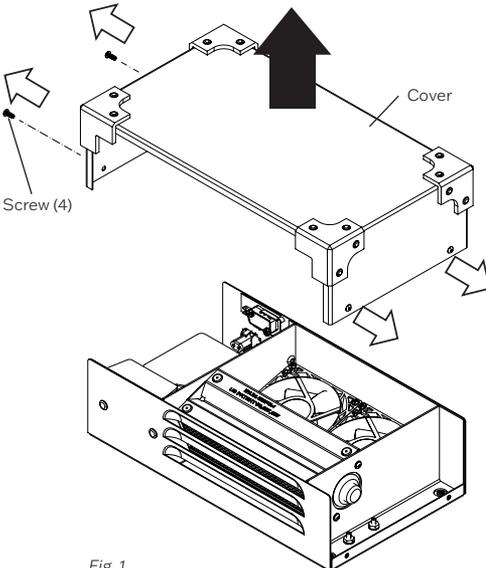

Fig. 1
2. Remove four (4) screws from the cover and slide the cover away from unit. See Fig. 1
- Slide the new ActivePure® Cell Assembly into place. **NOTE** orientation of the ActivePure Cell Assembly in relation to the fan. See *Fig. 1 & 3*